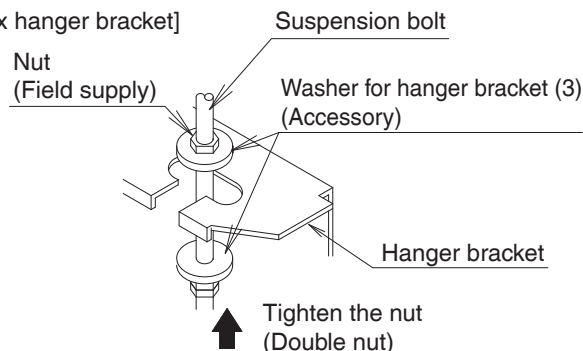

Fig. 7
(1) Install the indoor unit temporarily.
Make sure to securely fix the hanger bracket with the nut and the washer for hanger bracket (3) from the upper and lower side. **(Refer to Fig. 7)**